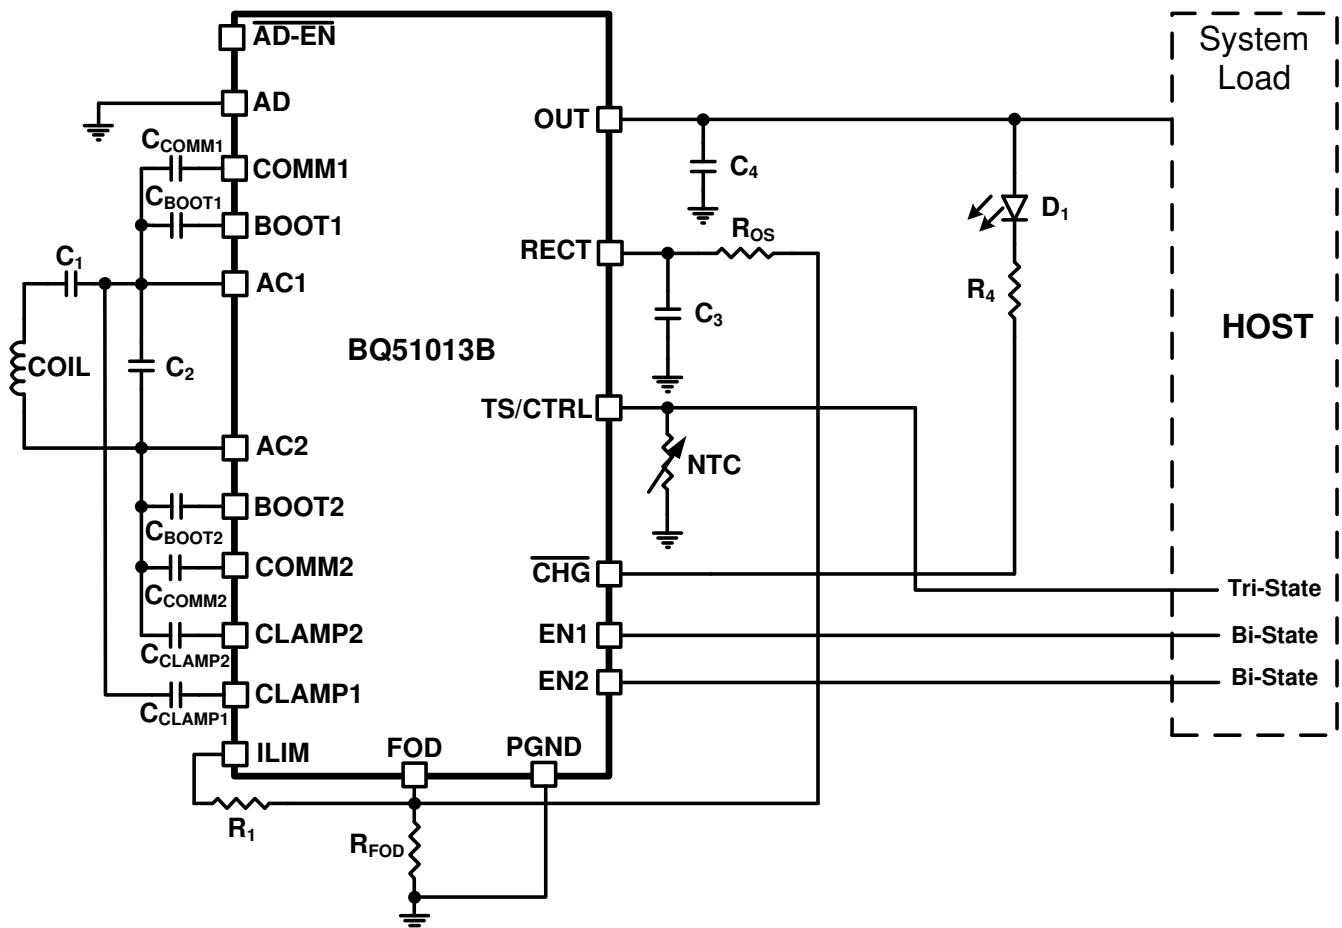
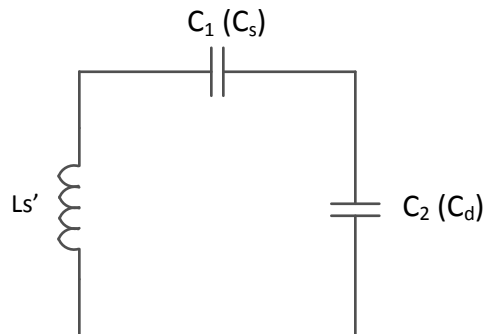

图 9-1. BQ51013B Used as a Wireless Power Receiver and Power Supply for System Loads
图 9-2. Dual Resonant Circuit With the Receiver Coil
9.2.1.2.1 Using The BQ51013b as a Wireless Power Supply: (See 图 9-1)
When the system shown in 图 9-1 is placed on the charging pad, the receiver coil is inductively coupled to the magnetic flux generated by the coil in the charging pad which consequently induces a voltage in the receiver coil. The internal synchronous rectifier feeds this voltage to the RECT pin which has the filter capacitor C3.
Shown in 图 9-1, the capacitors C1 (series) and C2 (parallel) make up the dual resonant circuit with the receiver coil. These two capacitors must be sized correctly per the WPC v1.2 specification. 图 9-2 illustrates the equivalent circuit of the dual resonant circuit: